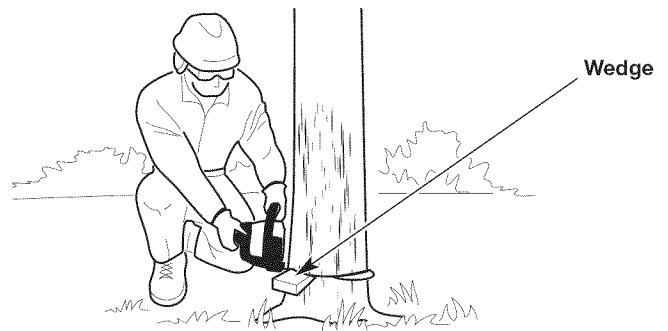

Fig. 14
3. Periodically glance up during the felling back cut to see if the tree is going to fall in the correct direction. If there is a chance that the tree might not fall in the desired direction, or if the tree might rock back and bind the chain saw, remove the guide bar from the cut, stop the unit and use wedges to open the cut and direct the fall (Fig. 14). Only use soft plastic or wooden wedges. Drive the wedges into the cut slowly. Once the wedges are in place and the cut is held open, either carefully reinsert the guide bar and continue the cut or slowly drive the wedges in further to push the tree over.